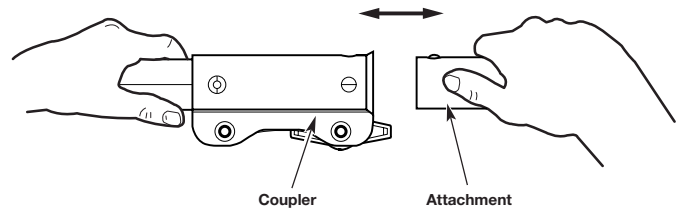

Fig. 5
5. Push the attachment straight into the coupler until the release button snaps firmly into the primary hole (Fig. 5).
4. Pull the attachment straight out of the coupler (Fig. 5).